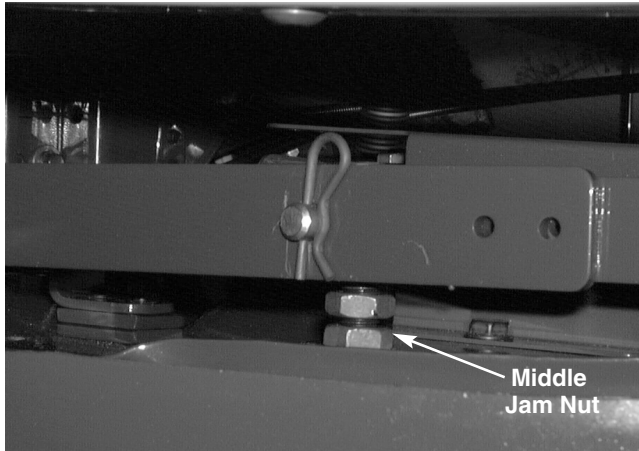

FIGURE 4.
- 7). Loosen the middle jam nuts that are directly below the center deck ferrules until they bottom out on top of the mowing deck jam nuts using a 3/4" wrench. See figure 4.